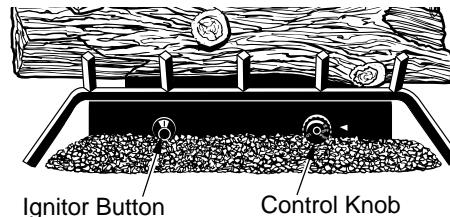

Figure 40 - Control Knob and Ignitor Button Location
4. Wait five (5) minutes to clear out any gas. Then smell for gas, including near the floor. If you smell gas, **STOP!** Follow "B" in the safety information in column 2, page 18. If you don't smell gas, go to the next step.
5. Turn control knob counterclockwise  to the PILOT position. Press in control knob for five (5) seconds (see Figure 40).